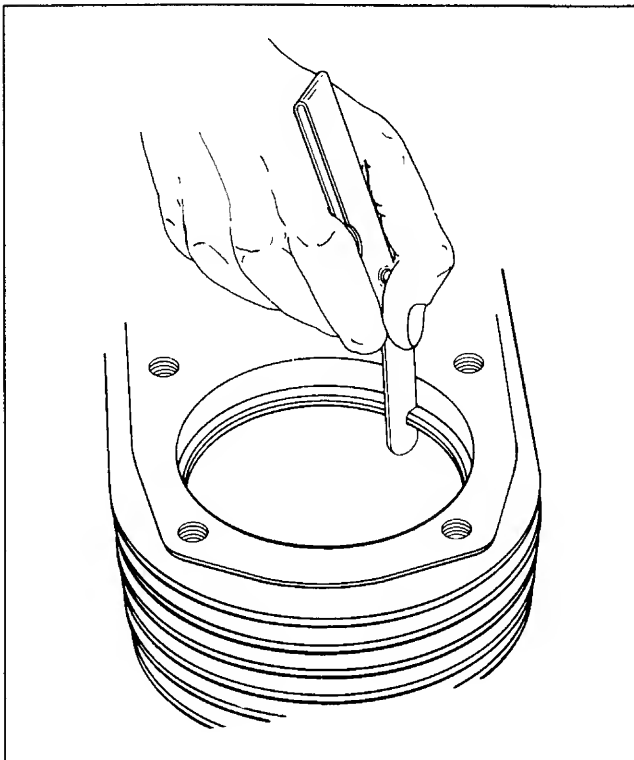

Figure 10-7. Measuring Piston Ring End Gap.
3. Before installing the rings on piston, place the top two rings, each in turn, in its running area in cylinder bore and check end gap (see Figure 10-7.) This gap should be **0.75 mm (0.030 in.) max.** in a used cylinder bore and **0.25/0.45 mm (0.010/0.018 in.)** in a new cylinder bore.